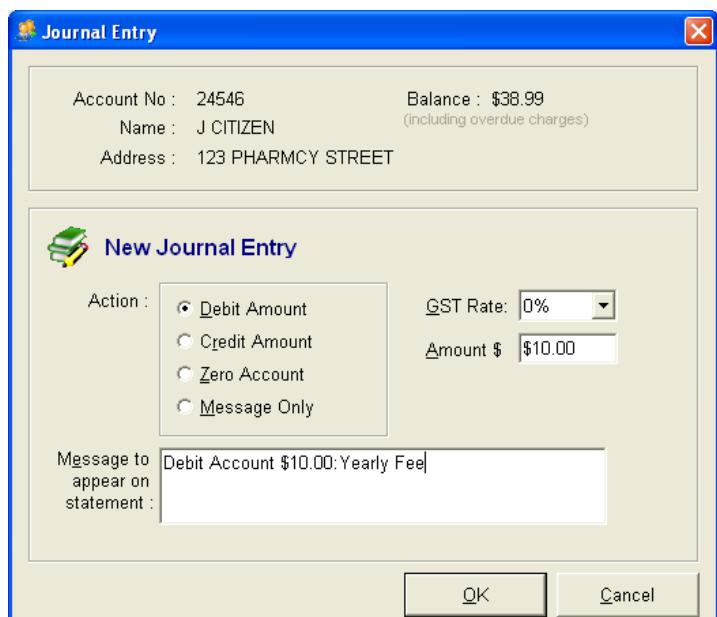

Figure 320
4. The Journal Entry screen will appear including the details of the debtor chosen (as shown in Figure 320).